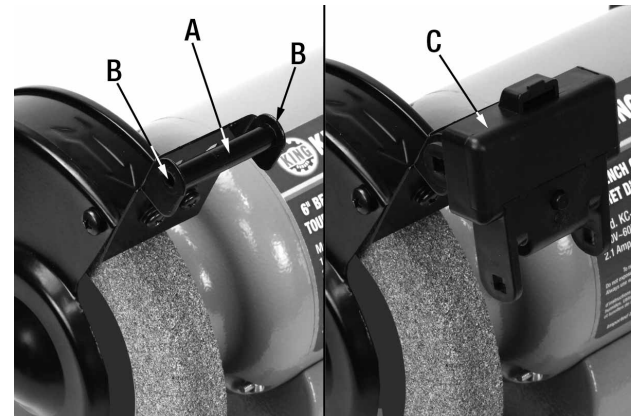

FIGURE 4
1. Slide bolt sleeve (A) Fig.4 between the spark deflector mounting holes (B), position LED light assembly (C) over the spark deflector mounting holes as shown.